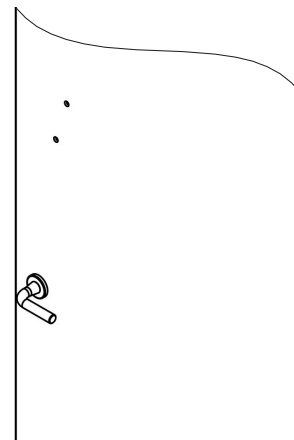

Figure 30
4. Countersink holes on opposite face of door to fit supplied oval head screws. (Figure 30)